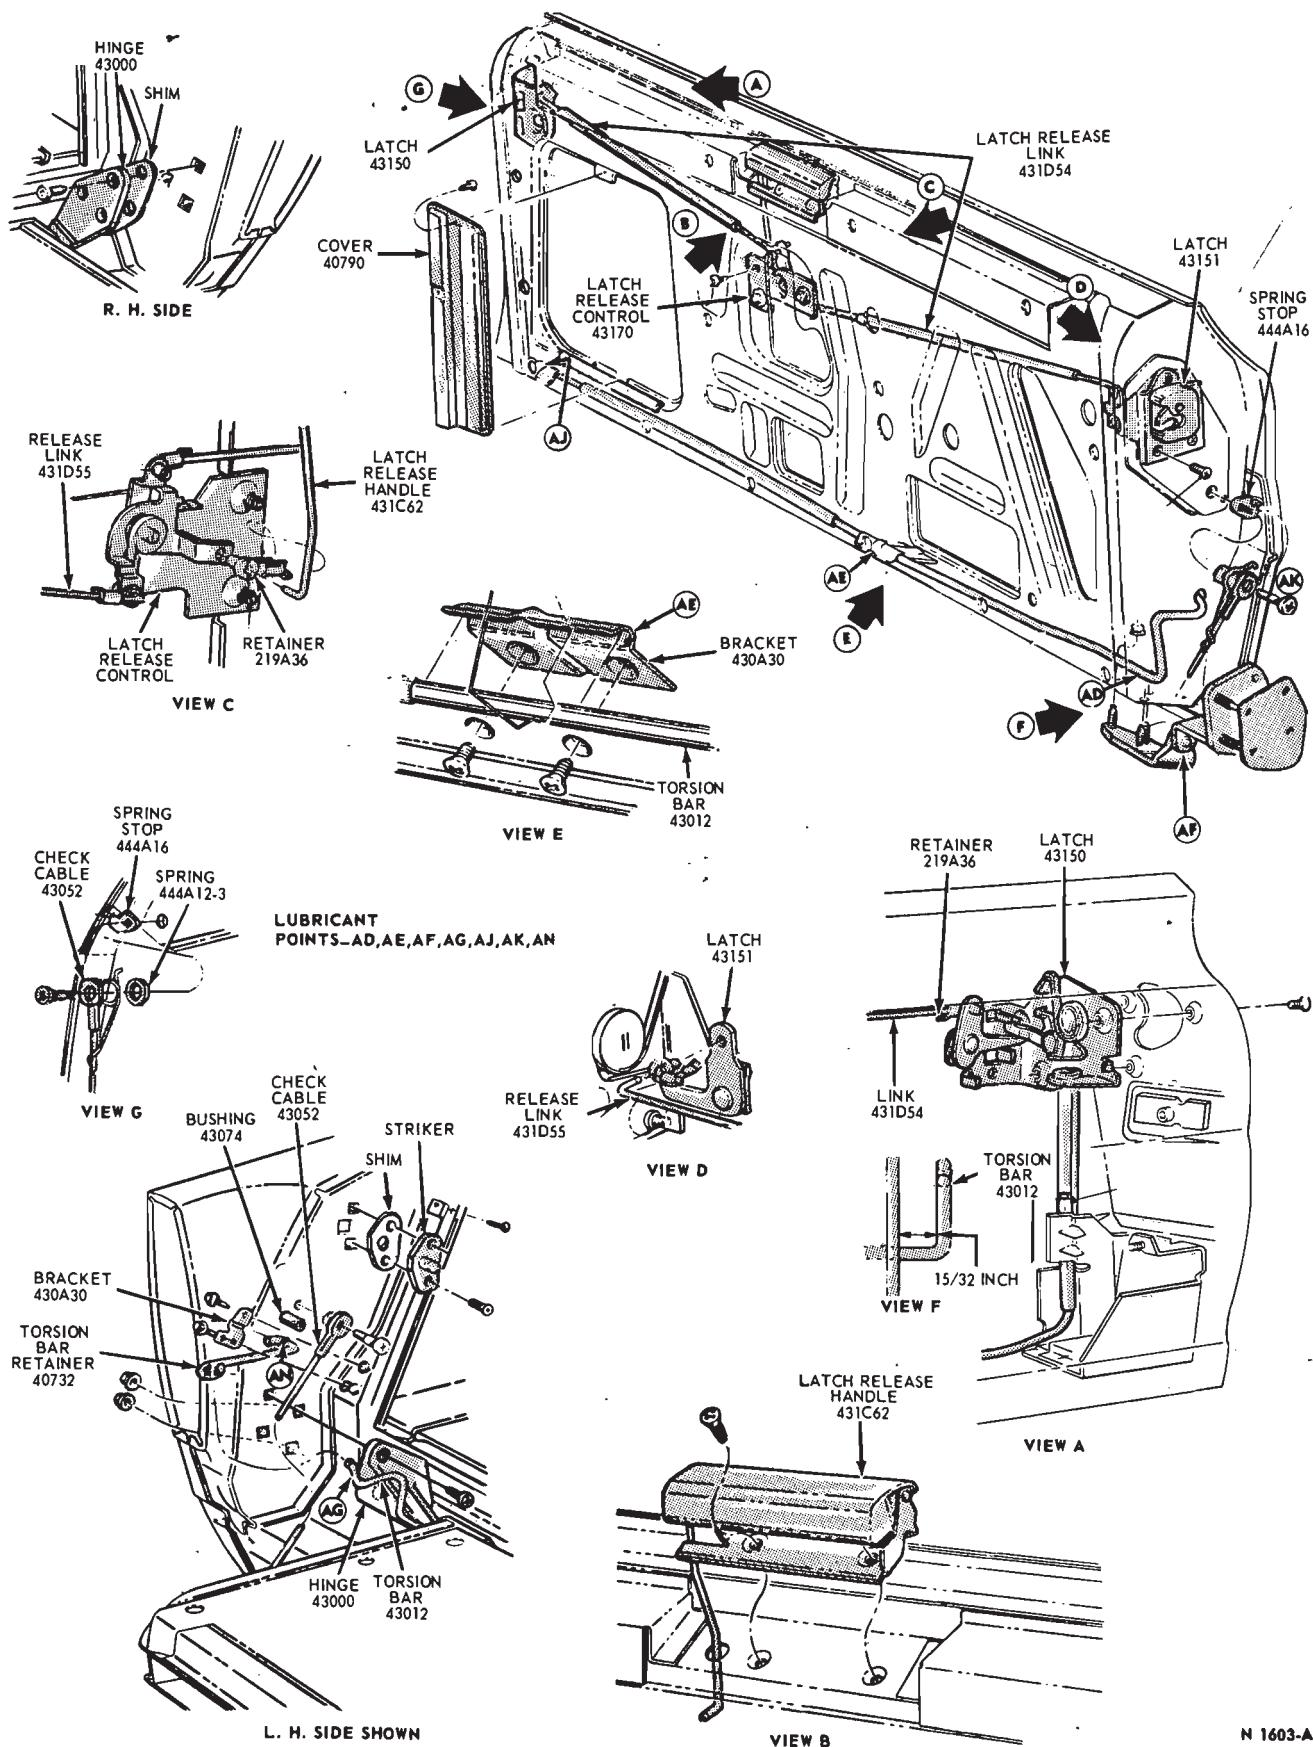

FIG. 17—Tailgate Latch Mechanism—Single Action
3. Align the tailgate and torque the hinge retaining nuts and attaching bolts to specification (Fig. 17).
4. Remove the torsion bar retainer bracket attaching screws. Then, release the torsion bar tension and remove the bracket and retainer (Fig. 17).
2. Remove the tailgate access panel cover (Fig. 17).